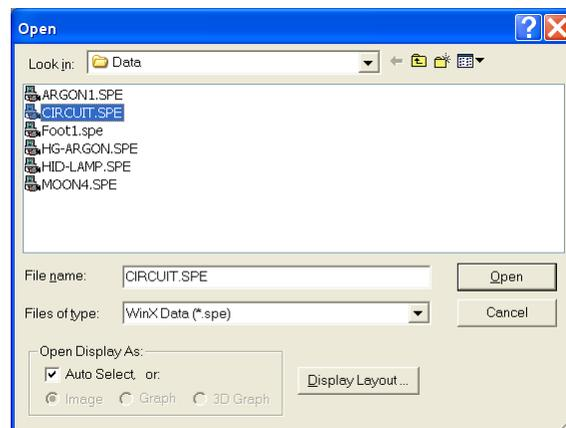

Figure 30. Open dialog
1. Select **Open** from the **File** menu. The **File Open** dialog will appear (Figure 30).
2. Open the directory containing the data files. Clicking on the button at the right of the **Look In** field opens a browser function, allowing you to quickly and easily access the correct folder. As shown in Figure 30, the data files will be listed below.